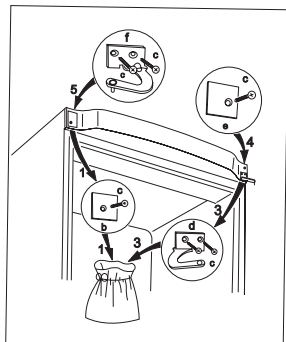

Fig. 1
- Remove the top left-hand side door mount (f) and the panel (c) from the plastic bag and attach using the screws (c) (Fig. 1).